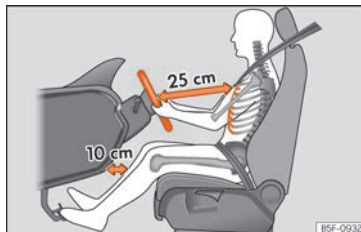

Fig. 3 The correct distance between the driver and the steering wheel must be at least 25 cm (10 inches).
- Move the steering wheel so it is at least 25 cm (10 inches) away from the sternum »» Fig. 3 and you can hold it with both hands on both sides, on the outer part, with your arms slightly bent.
and the dashboard of at least 10 cm (4 inches) »» Fig. 3.